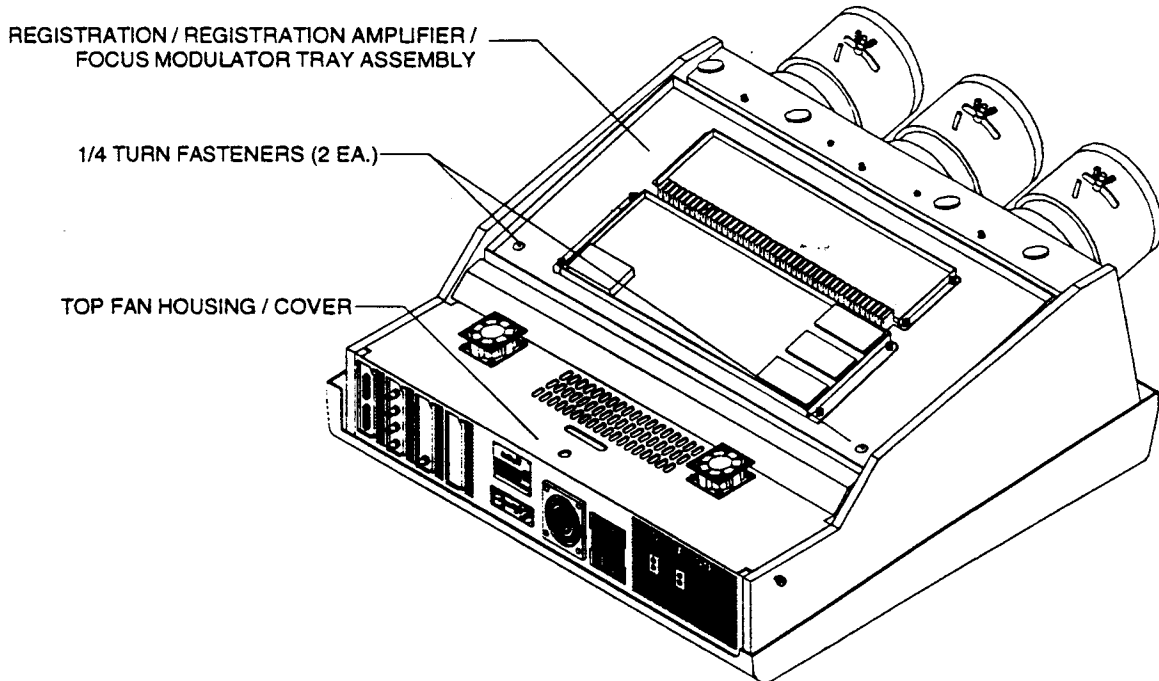

FIGURE S1-2. OPENING THE TOP TRAY ASSEMBLIES.
- STEP 1. Unlock and tilt up the registration tray and focus modulator/registration amplifier tray assembly. See Figure S1-2.